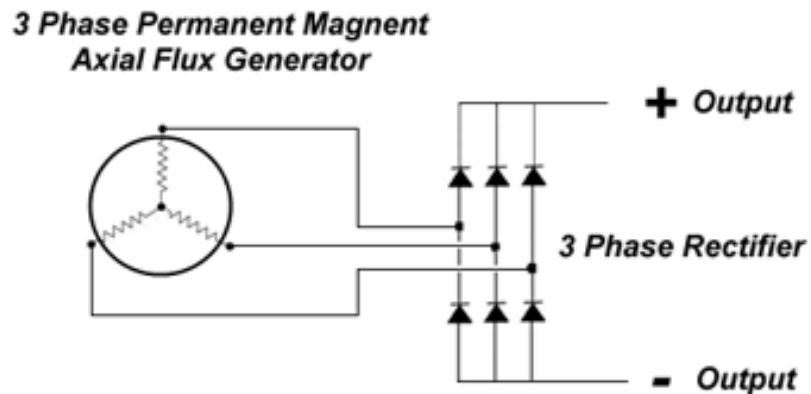

Figure 5, SeaHawk Basic Electrical Schematic
The basic electrical schematic for the SeaHawk is shown in Figure 5. The SeaHawk's PMG produces three-phase alternating current (AC) that varies in voltage and frequency with the rotor speed. The AC power is rectified to direct current (DC) power by a rectifier module inside the PMG. Thus, the wire run from the wind turbine to the MorningStar TriStar TS-60 is DC.
The basic electrical schematic for the SeaHawk battery charging system is shown in Figure 5.